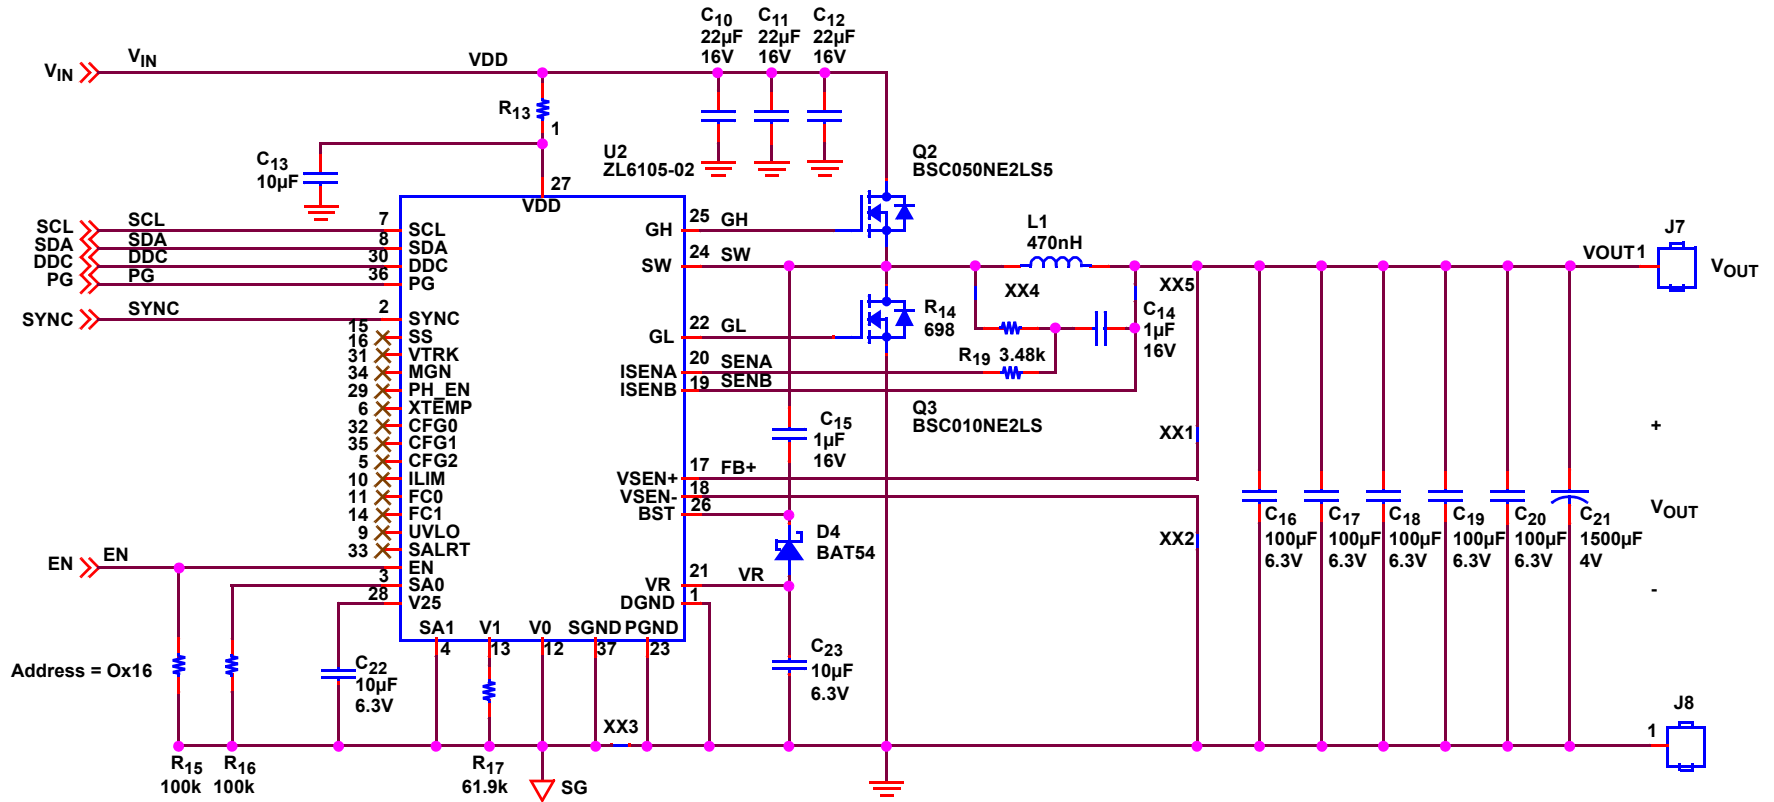

FIGURE 4. ZL6105-1CH-DEMO1Z DEMO BOARD
The ZL6105-1CH-DEMO1Z Demonstration Board schematics are shown in Figures 4 and 5. The hardware enable function is controlled by a toggle switch. The Power-Good (PG) LED indicates that  $V_{OUT}$  is regulating. The right angle headers at opposite ends of the board are for connecting a USB to SMBus control board or for daisy chaining of multiple Intersil evaluation boards.